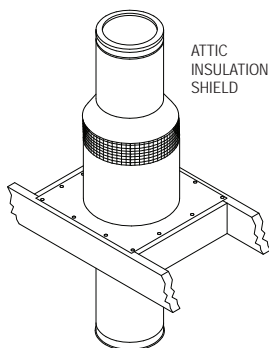

Figure 10
**9. Install Attic Insulation Shield:** Install the Attic Insulation Shield where the chimney passes into an attic. It's purpose is to prevent debris and building insulation from getting too close to the chimney (*Fig 10*). An installed Attic Insulation Shield is 15 inches high. In attic areas where this shield cannot fit, you must enclose the attic portion of the chimney in a framed enclosure. If the chimney is fully enclosed through the attic, an Attic Insulation Shield is not required. Where the chimney passes into the attic, install the Attic Insulation Shield as follows:
- d. Secure the Attic Insulation Shield to the top of the framed opening using at least (3) 8-penny nails or (3) #8, 1-1/2" wood screws per side (*Fig 10*).